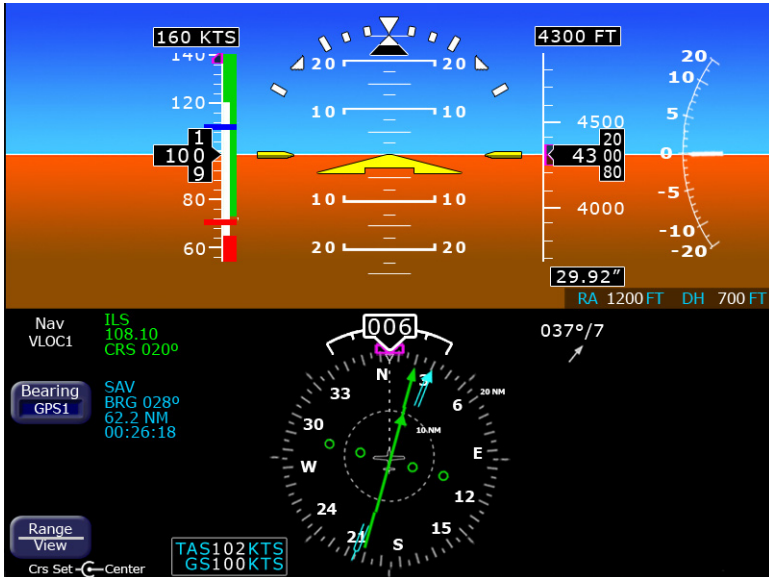

Figure 25. Uncoupled Copilot PFD
- **Enabled** — The *Nav*, *Hdg Bug*, *Alt Bug*, *IAS Bug* or *VSI Bug*, *DH Alert*, and *Baro Set* buttons are removed from the Copilot PFD, as shown in Figure 25. They can be controlled only from the Pilot PFD. The copilot can see the bugs, Nav, and BARO settings on their PFD, but cannot make changes.